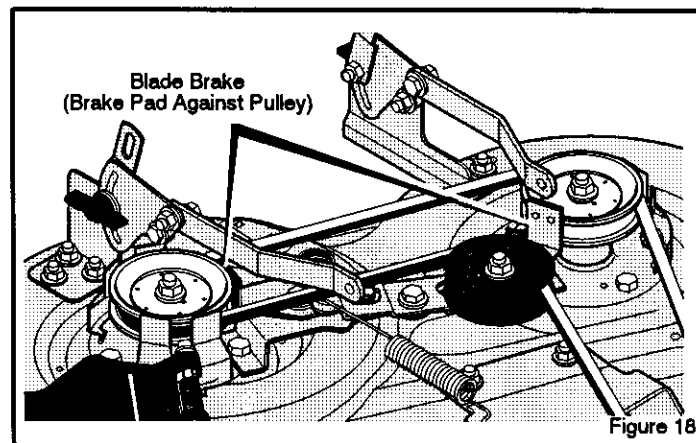

Figure 18
8. Move the blade rotation control to the DISENGAGE position. Stop the engine. Disconnect the wire from the spark plug. Check the operation of the blade brake. Rotate the pulleys with your hand. Make sure the brake pads are pressed tightly against the pulleys (Figure 18).